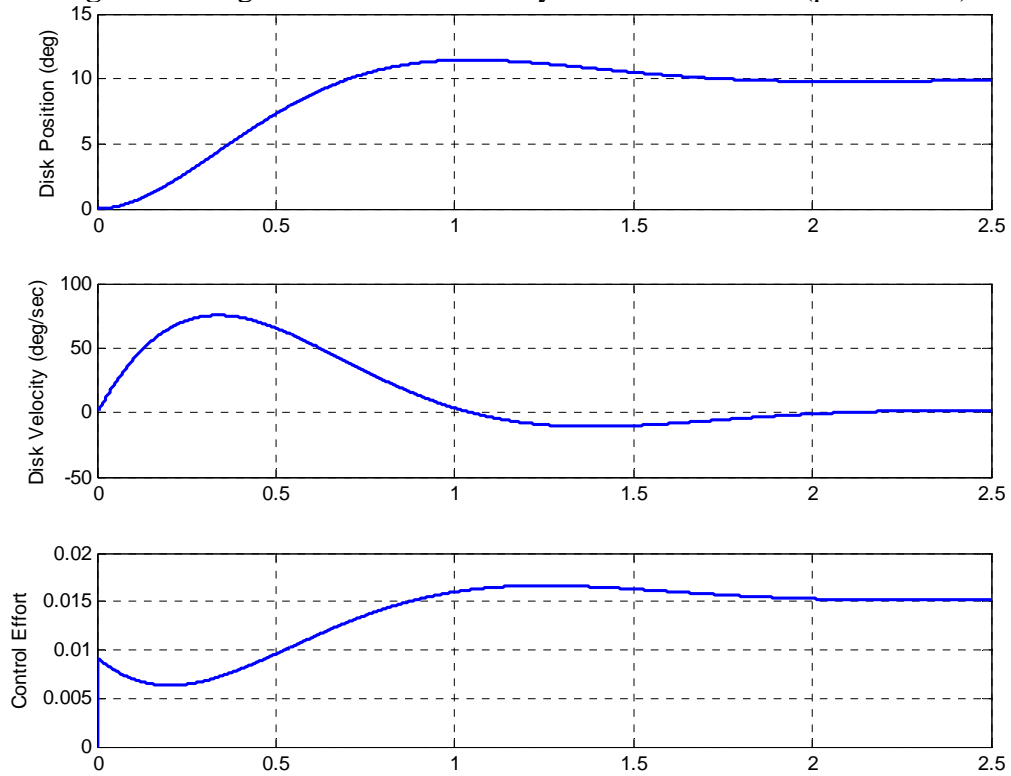

Figure 4. Integral control of a 1 dof system with bad data, but a better result (problem 1e).
e) Systems with these integrators have an interesting characteristic. Change the poles to -5, -10, and -1500 and rerun the system. You should get the results shown in Figure 4, which are much better. Note that the control effort did not change much. Before you go on, be sure to remove the line `A = A*0.25`, or you will have trouble in lab!